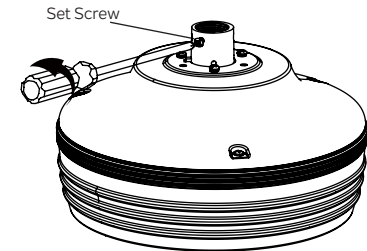

Fig. 7
**Step 3.** Loosen the two set screws on the motor coupling. (Fig. 7)